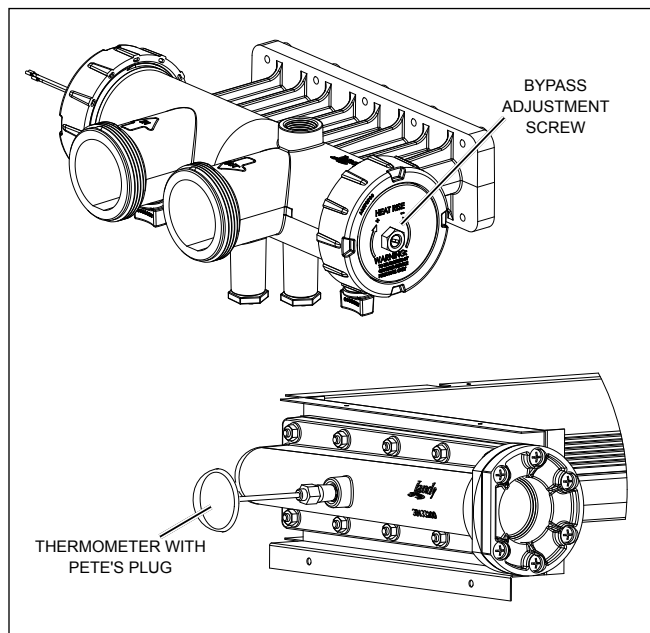

Figure 20. Temperature Rise Measurement
is measured in the return header of the Legacy. To measure the temperature rise, turn off the filter pump and remove the plastic plug protruding through the cabinet on the return header side of the heater. See Figure 20. With the plug removed, install the special thread adapter and Pete's Plug® fitting and insert a pocket thermometer. A temperature rise measurement kit is available through your Jandy distributor. See Section 11 of this manual for the correct kit number.
4. After three (3) minutes, note and record the thermometer reading. This is the pool water temperature.
5. Start the heater by turning the controller to ON. Allow the heater to operate for five (5) minutes or more. Note and record the thermometer reading. Subtract pool water temperature from this reading. This difference is the temperature rise. Refer to Table 6. If your measured temperature rise is within the range designated for your heater, skip steps 6 through 8.
6. Locate the bypass adjustment screw on the right-hand side of the header, see Figure 20. Loosen the nut so that the screw can be adjusted. A slight water leak past the nut may be expected. Turn the screw counterclockwise to decrease the temperature rise, and clockwise to increase the temperature rise as needed to achieve the ranges in Table 6. After the adjustment, tighten the nut so that no leaks occur.